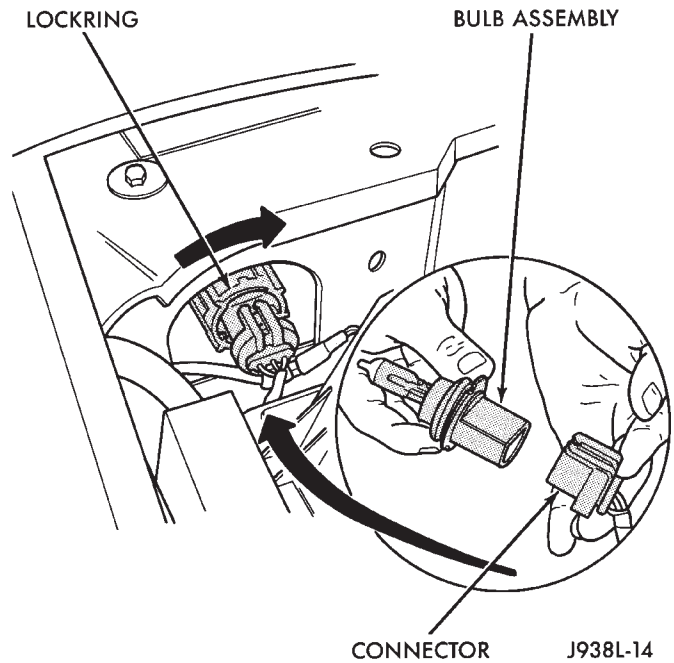

Fig. 5 Headlamp Bulb Removal
- (1) Lift hood to access lamps.
- (2) Reach into engine compartment and locate lock ring supporting the headlamp bulb assembly.
- (3) Rotate the lock ring 1/8 turn counterclockwise (Fig. 5).
- (4) Pull the bulb (9004) straight out from the housing. This is a halogen bulb, take care not to touch it with your fingers.
- (5) Replace by seating the assembly in the lamp housing and turning the lock ring 1/8 turn clockwise to secure.